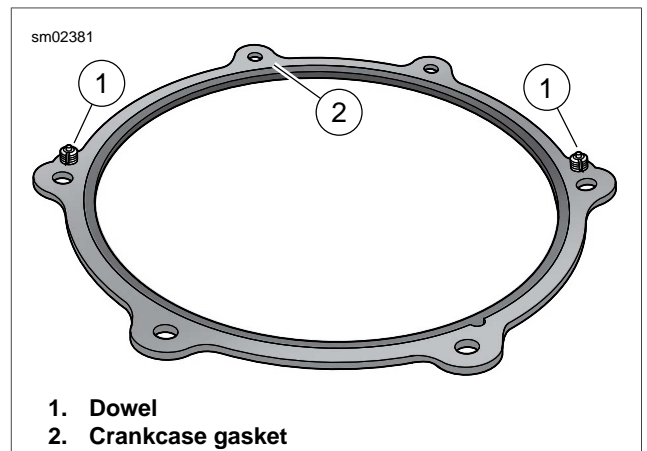

Figure 6-26. Crankcase Gasket
- See Figure 6-26. In next step, be sure dowels (1) in crankcase gasket (2) engage holes in crankcase.